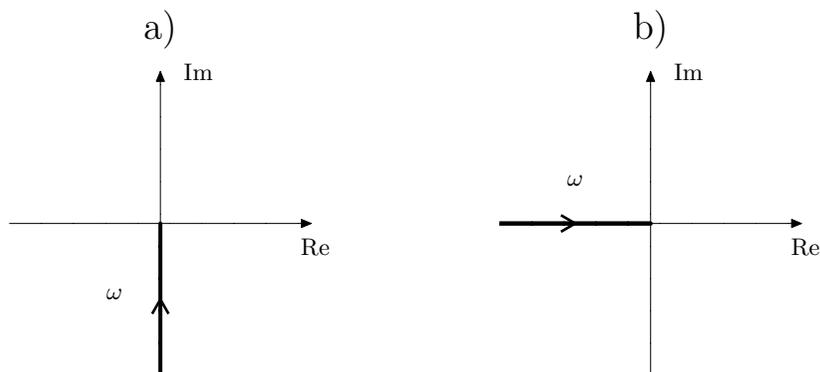

Figure 3.15a
3.15 The Nyquist curves are shown in Figure 3.15a.